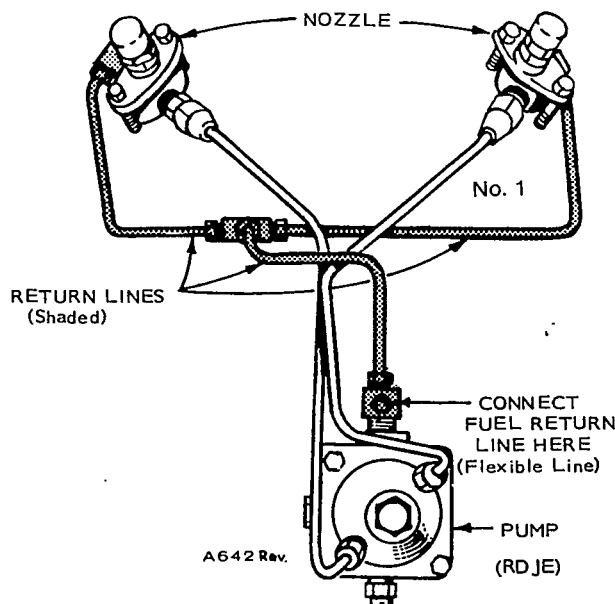

FIGURE 33. FUEL LINES TO INJECTORS
3. Remove No. 1 injector line; re-install line with top end of line in pump outlet so other end will direct fuel flow into an open container, Figure 33.